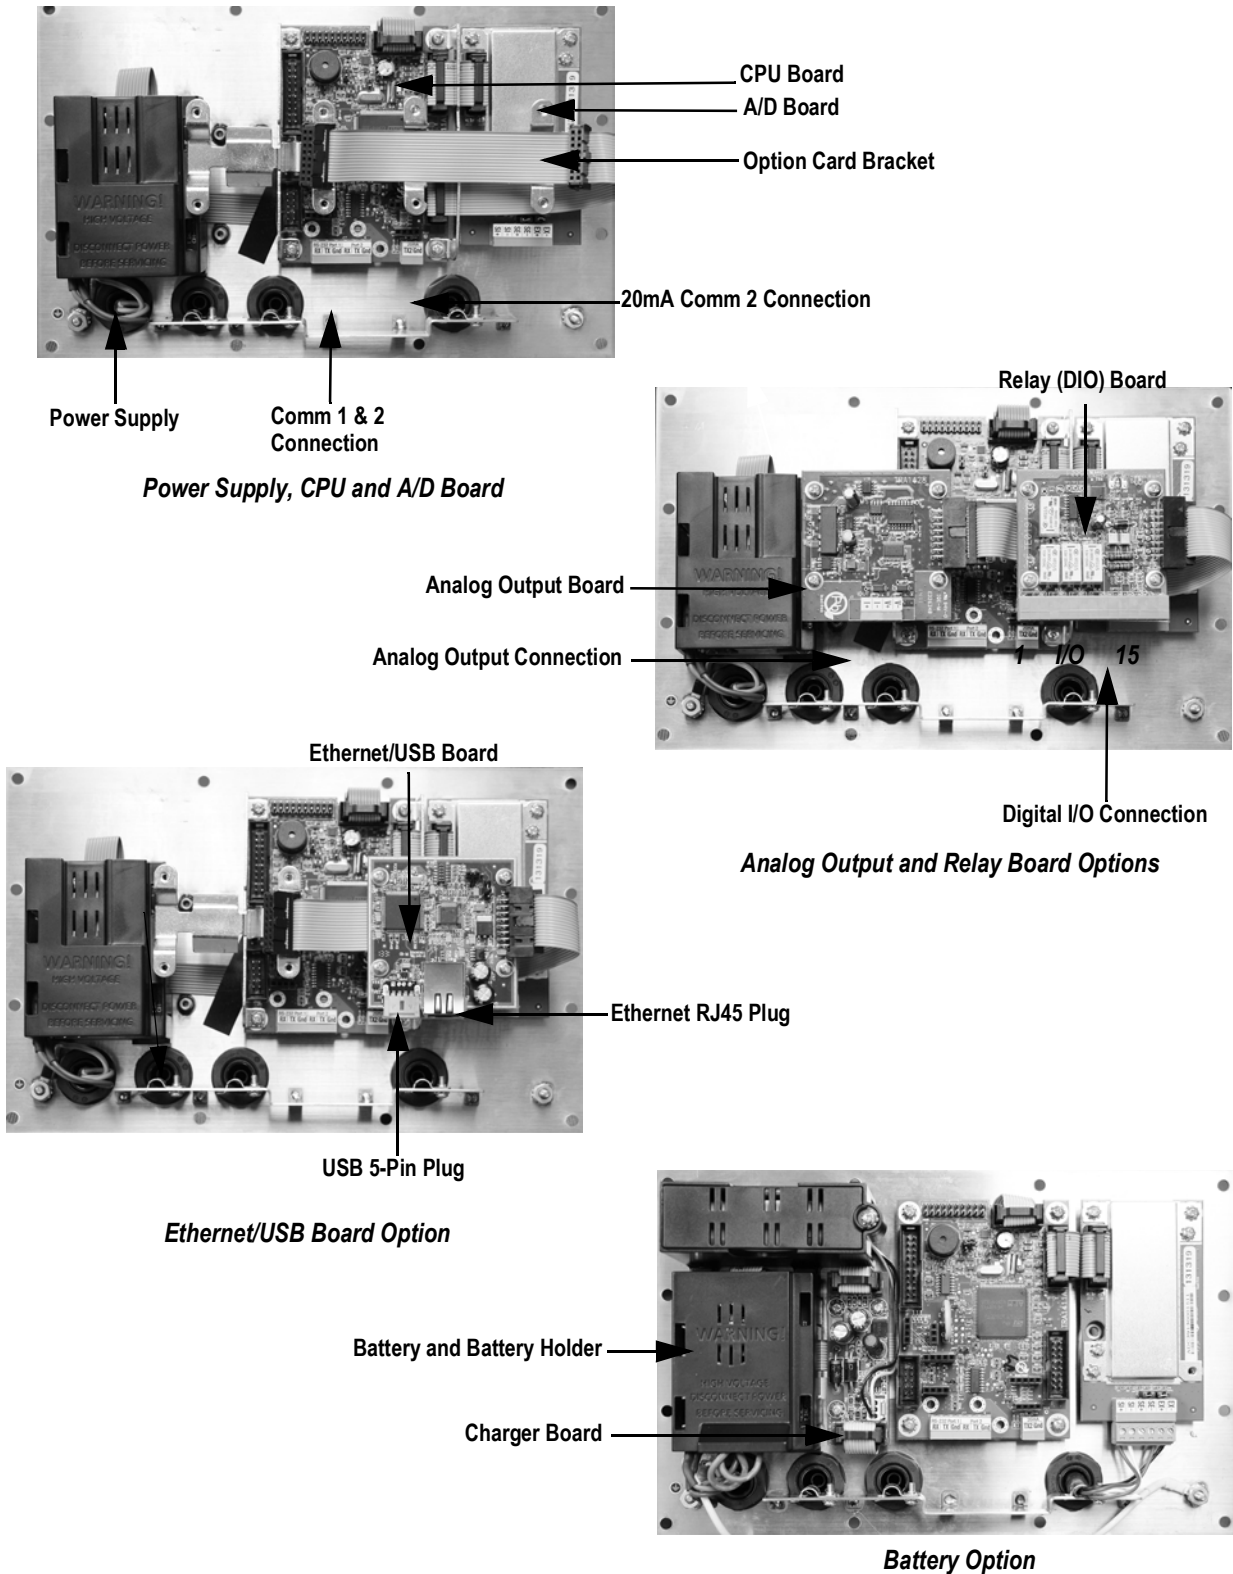

Figure 2-5. 482 Board Options
3. If not already in place, install an option card bracket (PN 131340), See Figure 2-5 on page 13.
4. Mount the analog output module, relay card or the Ethernet/USB option card on the option card bracket. See Figure 2-5 on page 13. The Ethernet/USB option card has to be installed on the option card bracket above the A/D card, not in the location near the power supply.